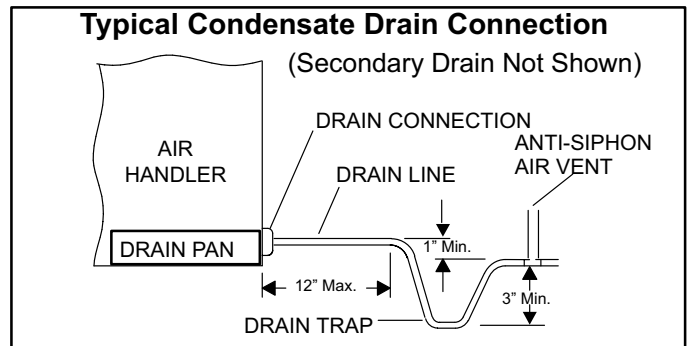

FIGURE 13
4. Install a 3" trap in both the primary and secondary drain lines as close to the unit as practical (see figure 13). Make sure the top of the trap is below the connection to the drain pan to allow complete drainage of the pan.
NOTE - Horizontal runs over 15 ft. long must also have an antisiphon air vent (standpipe) installed ahead of the horizontal run (See figure 13). An extremely long horizontal run may require an oversized drain line to eliminate air trapping.